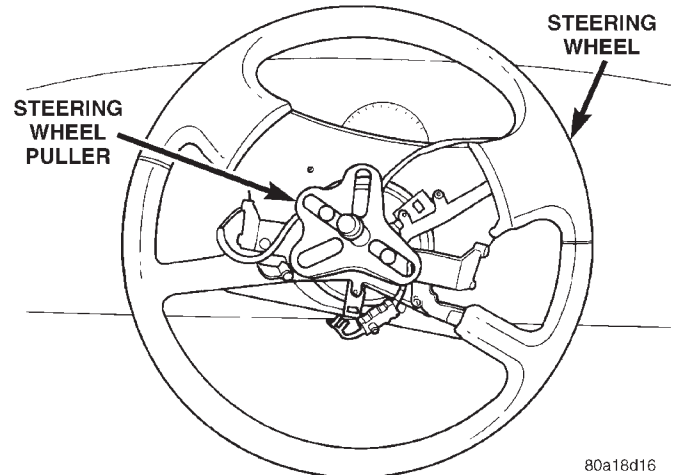

Fig. 14 Puller Installed On Steering Wheel
(19) Install Puller, Snap-On CJ2001P or an equivalent on steering wheel (Fig. 14).